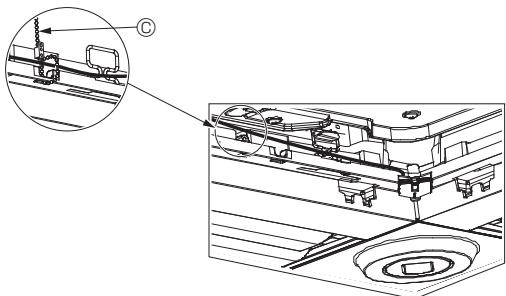

Fig. 5-13
- Secure the i-See sensor and signal receiver wires to the panel with the fastener as shown in the diagram so that there is no slack in the wires, and then cut off the excess end of the fastener. (Fig. 5-13)
- If the position of the i-See sensor was changed from the “○” position (E) to the “□” position (F), change the switch settings. (Refer to page 10.)